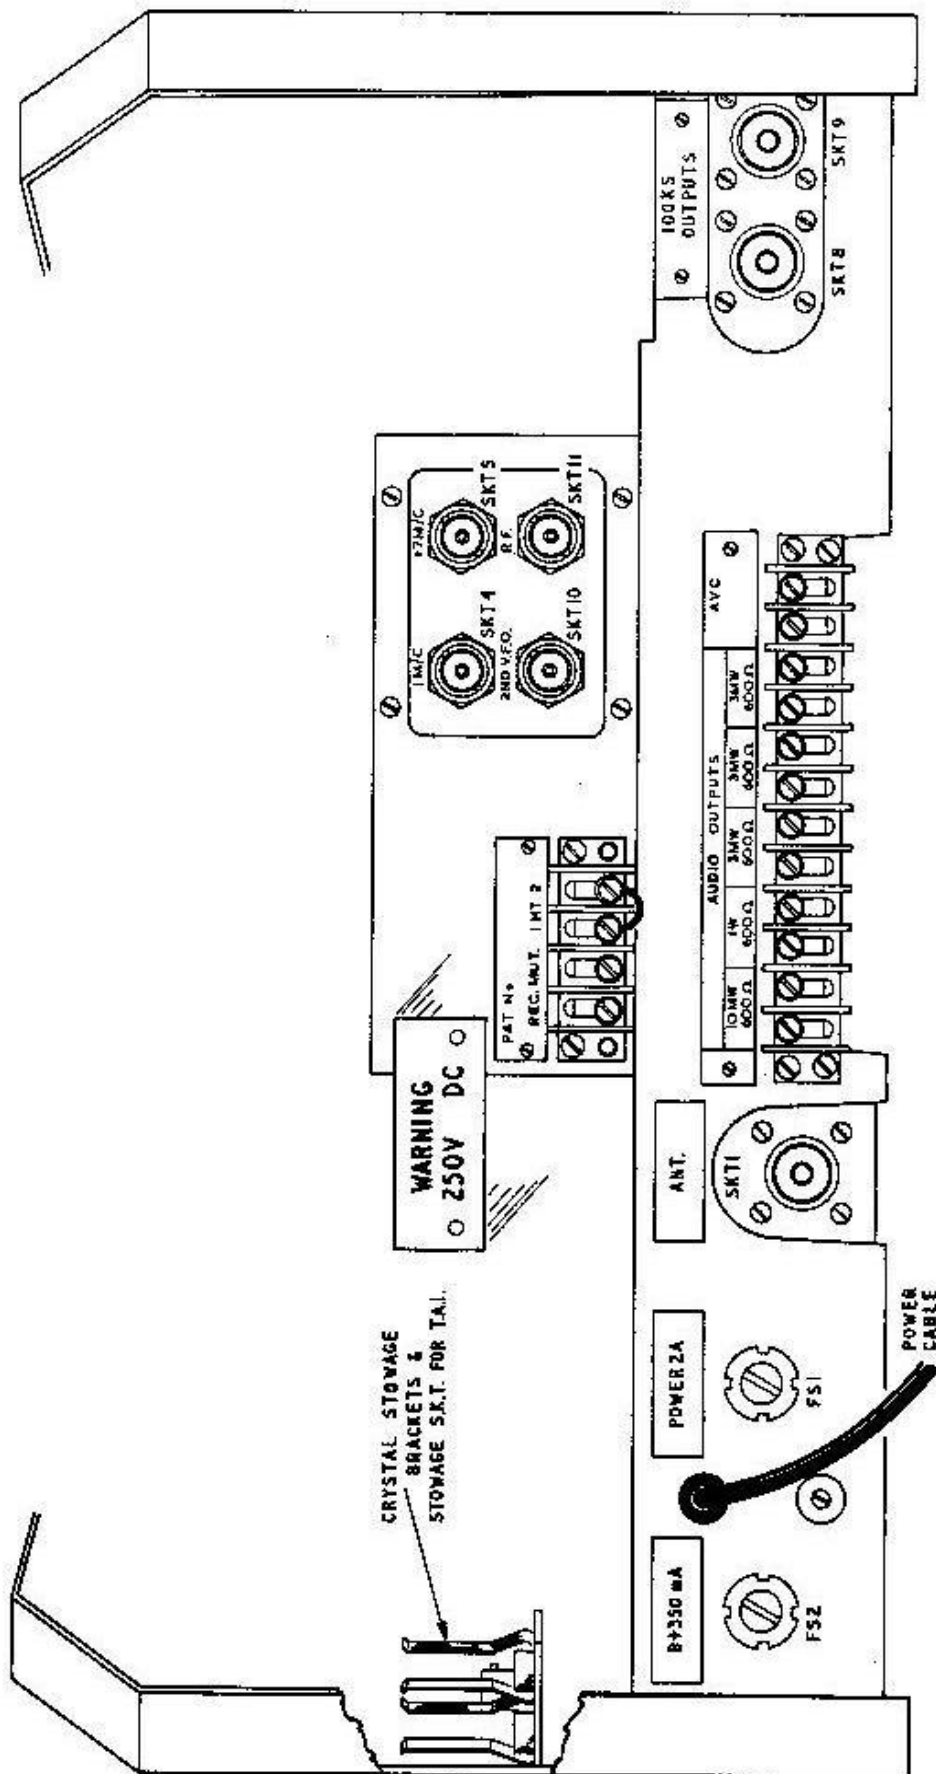

Fig. 1
7. The following input and output connections are available on a panel at the rear of the receiver (fig.1):-